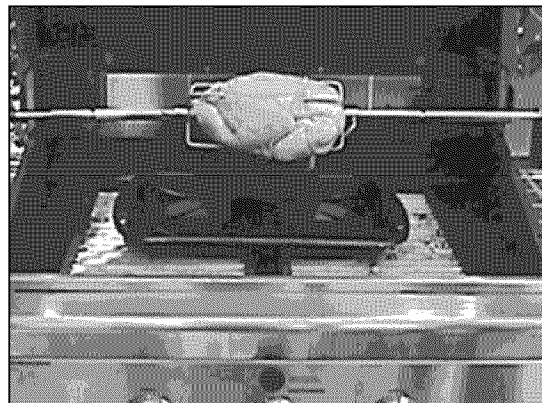

FIG. 49
2. Verify placement as shown in Fig. 49.